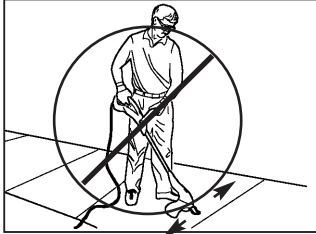

Fig. 4-2E
7. **SWEEPING - DO NOT SWEEP WITH TRIMMER (Fig. 4-2E)**
7. **BALAYAGE - NE PAS UTILISER LE COUPE-HERBE POUR BALAYER (Fig. 4-2E)**
7. **BARREDOR - NUNCA UTILICE SU UNIDAD PARA ESTE TRABAJO (Fig. 4-2E)**